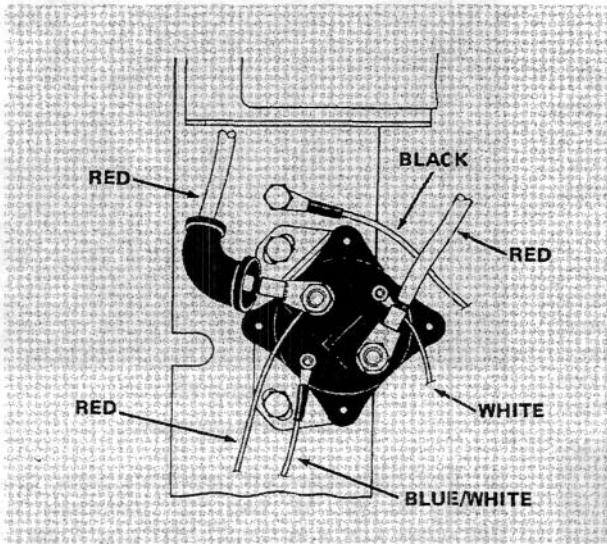

Figure 80
5. Rotate ignition key to START and check continuity across solenoid terminals where the thin white and red wires connect (Fig. 80). If there is no continuity, proceed to step 6. Proceed to step 8 if there is continuity.
8. Check continuity across blue/white wire on solenoid terminal and the black ground wire mounting bolt (Fig. 80). If there is no continuity, proceed to step 9 or step 12, if step 9 has been completed. Proceed to step 13 if there is continuity.
1. Check continuity between alternator output wire at side of engine (Fig. 89) and positive terminal on solenoid — where red battery cable and red wire connect (Fig. 80). If there is continuity, either the battery or the engine alternator may be defective. Proceed to step 2 if there is no continuity.